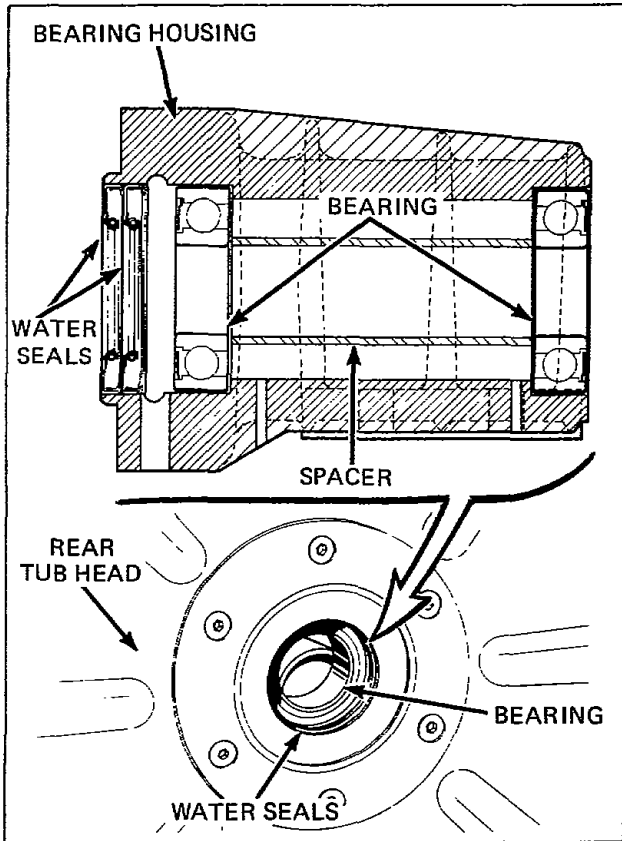

Figure 43
### 39. REAR TUB HEAD (Refer to *Figure 43*)
- b. Pry water seals out of bearing housing using pry bar, *Figure 43*.
NOTE: New seals should be installed with spring loaded lip facing in as shown in *Figure 43*.